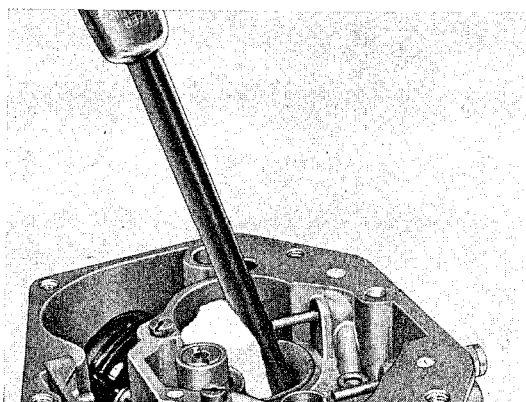

Fig. 16
11. Remove injection tubes, if necessary by using a screw driver which should be protected by means of a protection tube to avoid damage to the injection tubes. Protect venturi by a piece of wood as illustrated below (fig. 16).